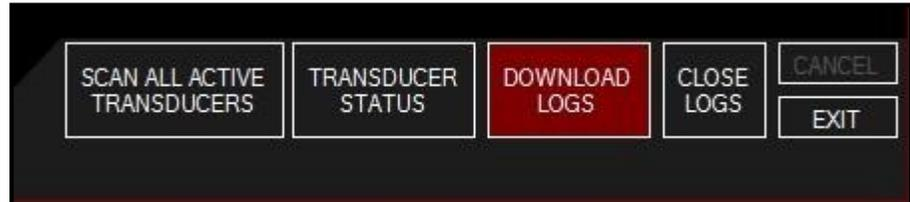

Figure 5.3-1: Download Logs Button
1. Select **"Download Logs"** from the "Tool" dropdown menu or press the **"Download Logs"** button on the main screen (Figure 5.3-1).